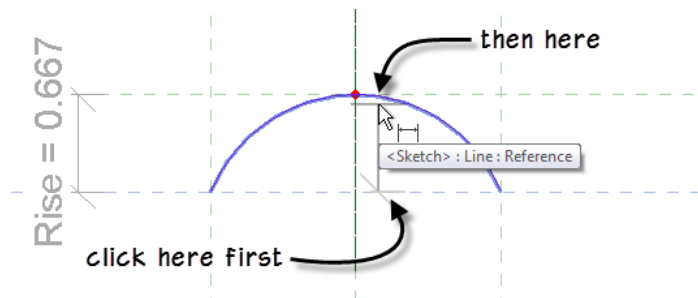

Figure 29—Dimension the arc directly
14. Click directly on the arc next to add the second witness line (see Figure 29).